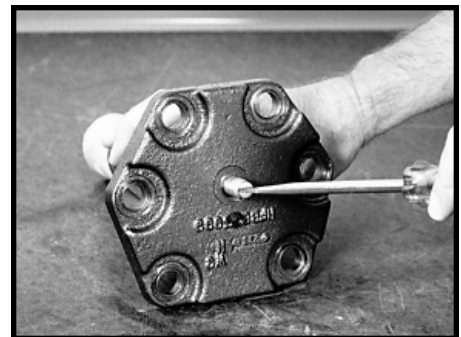

Figure48
**NOTE:** A side cover (58A) will have a "DU" bushing and once piece seal (54A). A side cover (58) will have a "DU" bushing or a roller bearing, steel back up washer (56) teflon backup washer (55), two piece seal (54) and retaining ring (53). The side cover roller bearing can have retained (caged) or loose rollers. The teflon backup washer (55) and two piece seal (54) may have been replaced with an integral washer and seal (54/55). See exploded assembly view.
- 12. Screw the sector shaft adjusting screw (51) through the side cover (58 or 58A). SEE FIGURE 48. Place the side cover exterior side down and lift the sector shaft out vertically. SEE FIGURE 49.